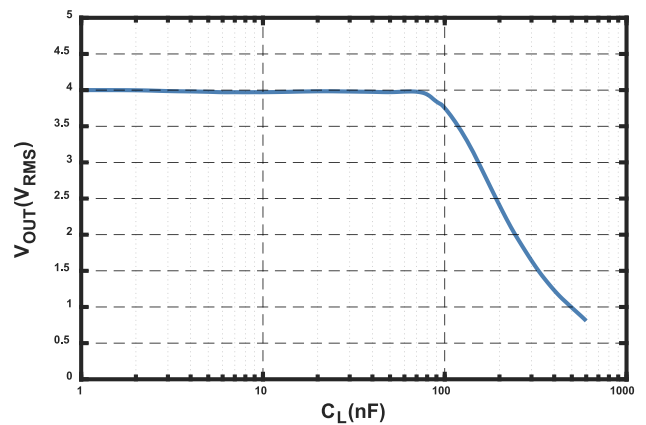

Figure 4. Output voltage versus load capacitance
3. Excessive capacitive load may cause the distortion of output signals when the primary frequency is too high. Please refer to Figure 4.